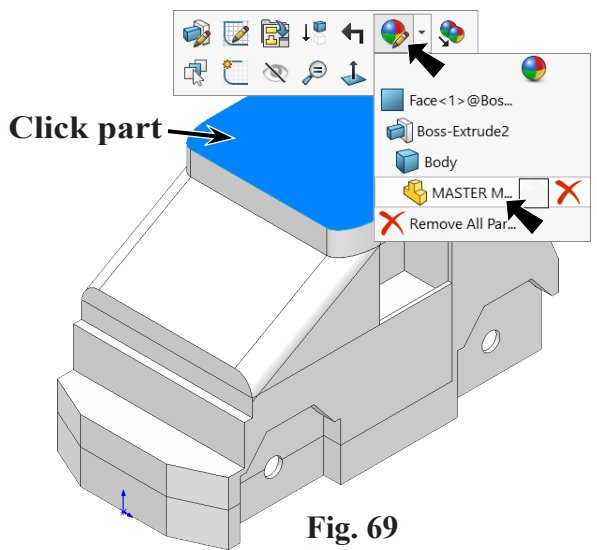

Fig. 69
- Step 1. Click part, click **Appearance Callout**  on context toolbar and click **RIM** , **Fig. 69**.